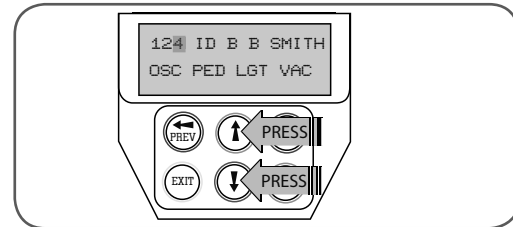

fig 49
1. Press UP or DOWN buttons to navigate through list (**Fig. 49**).